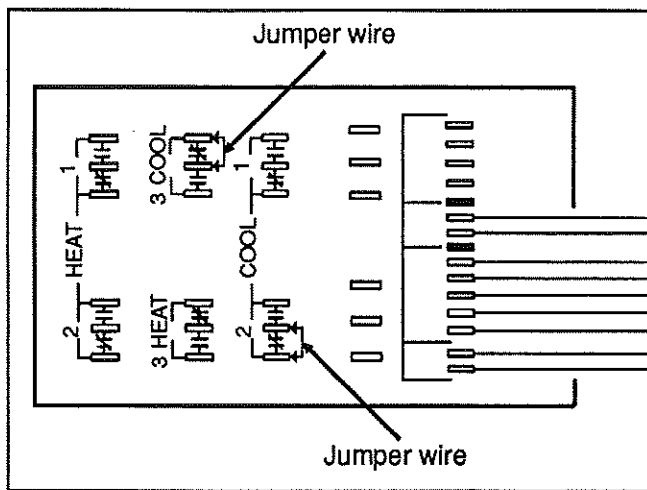

FIG. 11 - HVAC logic panel
3. Open the first R.H. side baggage compartment door, unscrew the quarter turn screw and slide open the A/C and heating junction box drawer. Locate the stage "3 Cool" on the HVAC logic panel, then install a jumper wire between the central terminal of this stage and its normally-closed contact terminal as illustrated in fig. 11. Locate the stage "2 Cool", then install a jumper wire between the central terminal of this stage and its normally-closed contact terminal as illustrated in fig. 11.